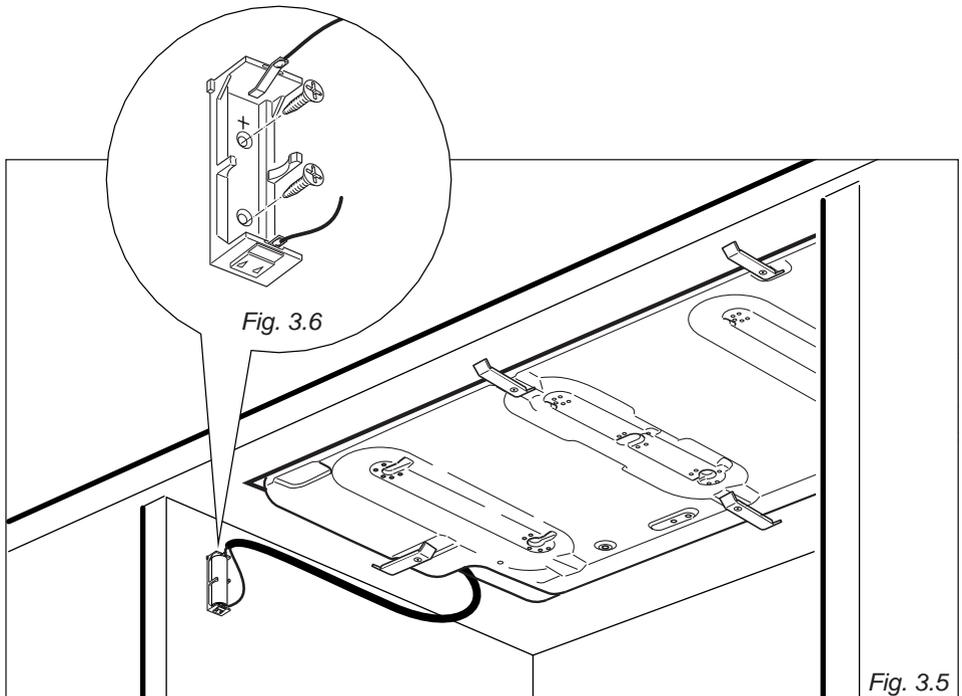

Fig. 3.5
- Fix the battery holder to the cabinet unit (figures 3.5 - 3.6) with 2 suitable screws (not supplied). We suggest to position the support as per figure 3.5, on the left wall of the cabinet. Then fix the cable to the cabinet wall with suitable clamps (not supplied).